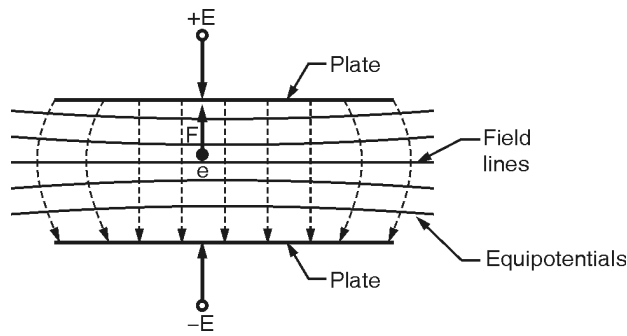

Fig. 1.5.1(a) : Electric field between parallel plates
- ii. Fig. 1.5.1(a) shows equipotential surfaces, indicated by solid lines. Since the force is in a direction opposite the field and the equipotential surfaces are perpendicular to the field, the force on an electron is in a direction normal to the equipotential surfaces.
iii. Fig.1.5.1(b) shows two concentric cylinders with a potential applied between them. Lateral repulsion again causes the spreading of the flux lines producing a field as shown. The equipotential surfaces are shown as solid lines. It is clear from the diagram that the equipotential surfaces formed here are curved.